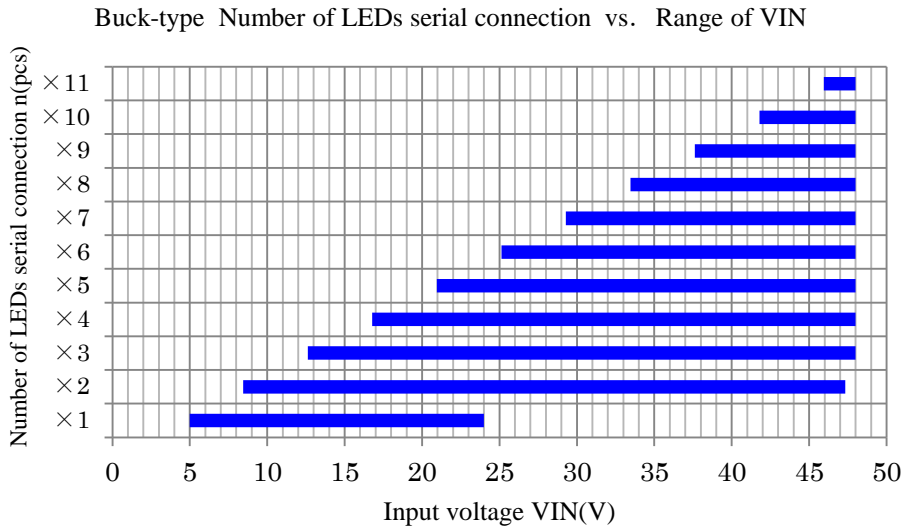
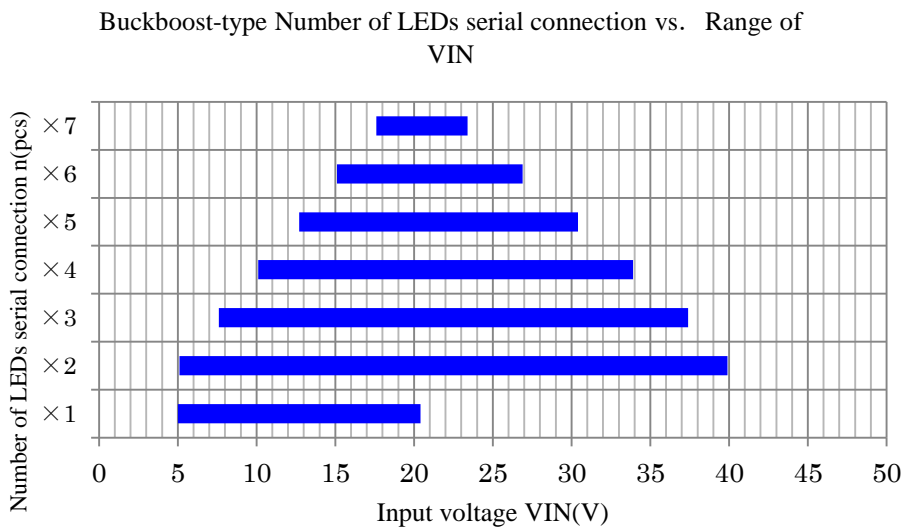

fig.12
fig.14
**For non** ...In case of following condition,  $V_{IN}$  under  $V_{IN(ON)}$ ,  $V_{IN}$  or  $V_{sw}$  reaches 48V, and  $I_{Lp}$  reaches  $I_{sw(LIM)}$ , it is the setup which doesn't become utility. When a table 6 is graphed, they are shown in the fig12 – the fig14.
The fig12 – the fig14 are based on the calculation. You must reduce ILED, frequency and Vout when surge voltage is big in the waveform of the SW terminal, and when the heat generation of the IC is high. And, you must use it within the range of “Thermal Derating Curve” of the fig1.